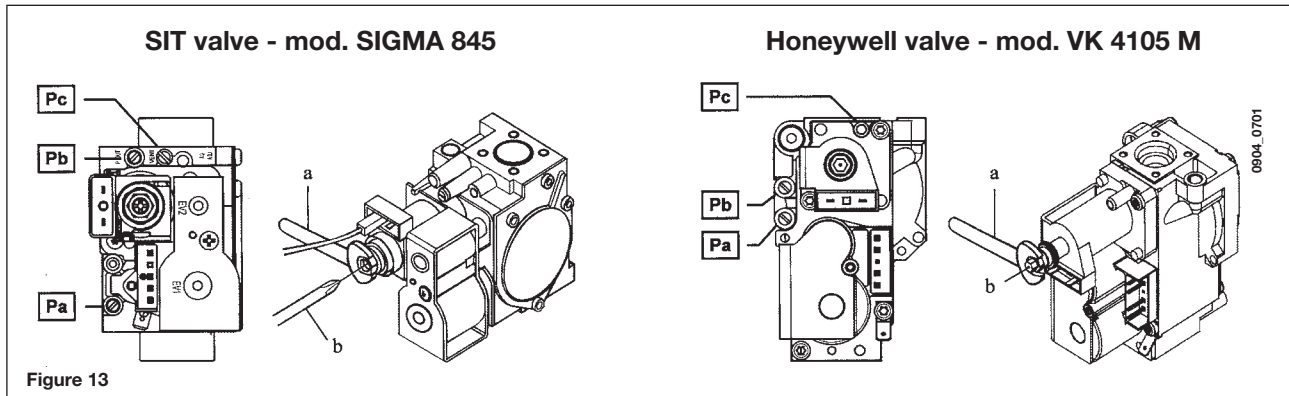

Figure 13
The procedure for calibrating the pressure regulator may vary according to the type of gas valve fitted (HONEYWELL or SIT; see figure 13).
C) Pressure adjusting device setting (Figure 13)